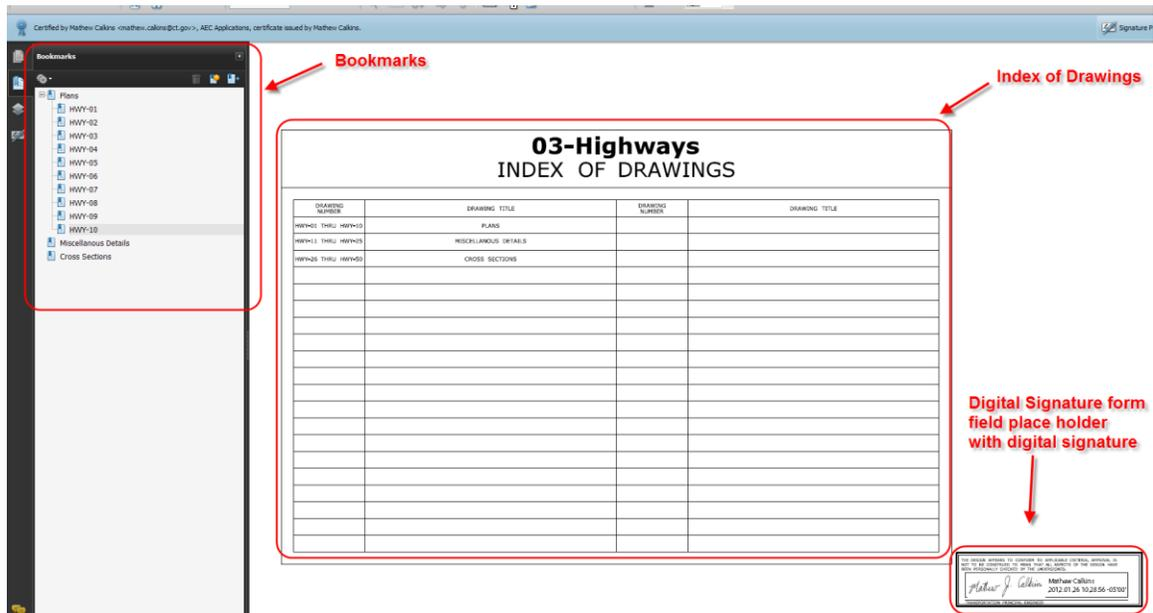

Figure 1 Discipline Subset Bookmarks, Index of Drawings, & Signature fields
11. Each subset shall contain bookmarks; one for each page. Figure 1 displays an example of bookmarks. See Publishing MicroStation Content to PDF Format.pdf for more instructions.
- a. Figure 1 also displays examples of subgroup folders. While publishing, subgroups may be created to contain similar sheets. See Publishing MicroStation Content to PDF Format.pdf for more instructions.
- signature cell place holder BDR Discipline Cover Sheet cell. See figure 1 for an example.
- a. For projects where a consultant is the Project Manager on the project, the Specification and CSI special provisions submittals shall be submitted in (1) zipped folder, see section 3.2.6.
- c. Design Initiated Change Orders shall be place in (1) pdf document, with “C#” and the date in the header. An example would be “Rev. C1 - mm/dd/yy”.
21. Working Drawing calculations shall be in (1) pdf document with a page size of 8.5” x 11” and be digitally signed in accordance with Section 2.6. Any supplemental documents that are included in the Working Drawing submittal shall be 8.5” x 11” pdf documents. Documents that require signatures may be scanned with a minimum resolution of 200 dpi, and size = 8.5”x11”. These documents need to digitally signed in accordance with Section 2.6.